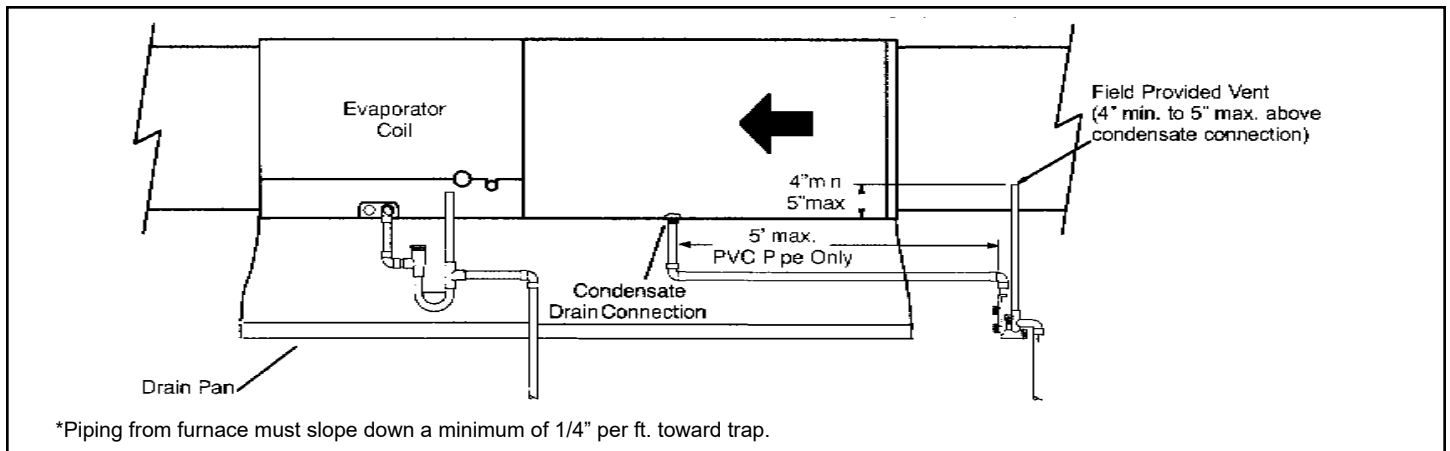
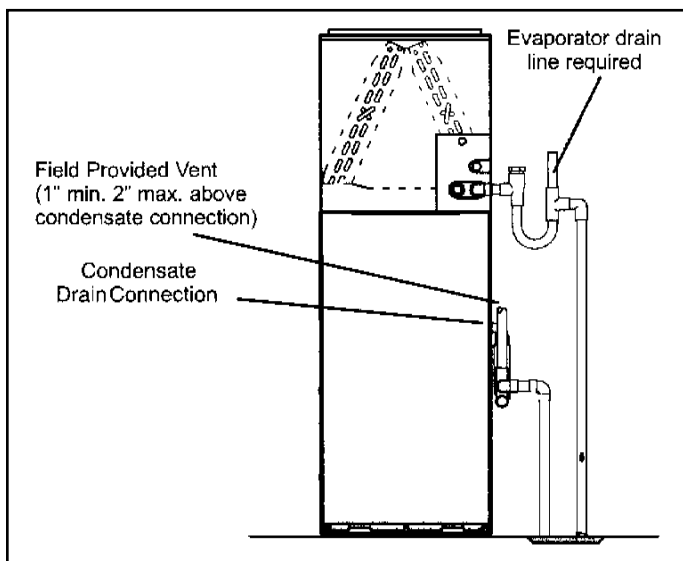
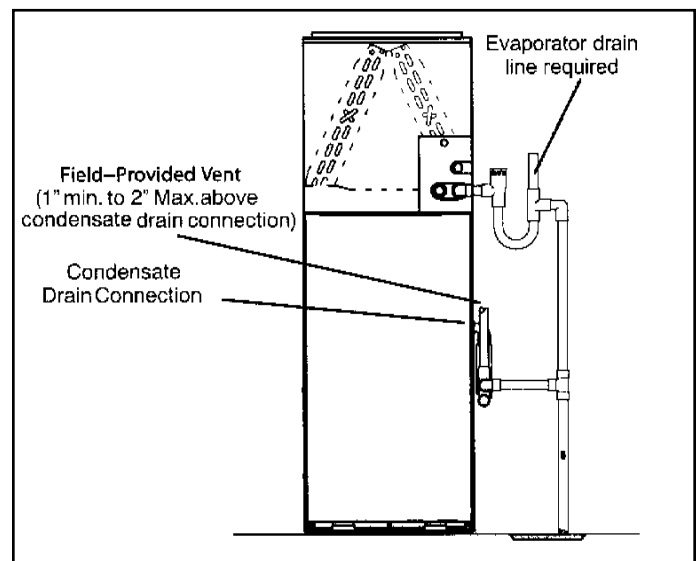
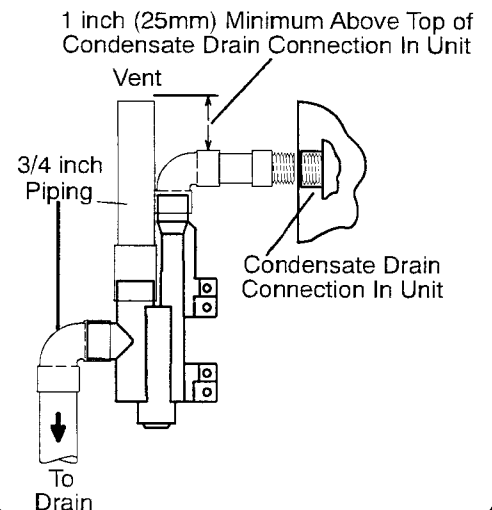

Figure 55. Condensate Trap Locations
Figure 56. Unit with Evaporator Coil
Figure 57. Evaporator Coil Using a Common Drain
Figure 59. Trap / Drain Assembly Using 1/2" PVC or 3/4" PVC
This unit is designed for either right or left side exit of condensate piping in upflow applications. In horizontal applications, the condensate trap must extend below the unit. An 8" service clearance is required for the condensate trap. Refer to Figure 52 and Figure 55 for condensate trap locations. Figure 59 shows trap assembly using 1/2" PVC or 3/4" PVC.
4. Install drain trap using appropriate PVC fittings; glue all joints. Glue the provided drain trap as shown in Figure 59. Route the condensate line to an open drain. Condensate line must maintain a 1/4" downward slope from the furnace to the drain.
5. Figure 55 and Figure 56 show the furnace and evaporator coil using a separate drain. If necessary, the condensate line from the furnace and evaporator coil can drain together. See Figure 57 and Figure 58.
Horizontal furnace (Figure 55) - In horizontal furnace applications, the field provided vent must be minimum 4" to a maximum 5" length above the condensate drain outlet connection. Any length above 5" may result in a flooded heat exchanger if the combined primary drain line were to become restricted.
When testing pressure of gas lines, gas valve must be disconnected and isolated. See Figure 57. Gas valves can be damaged if subjected to pressures greater than 1/2 psig (3.48 kPa).